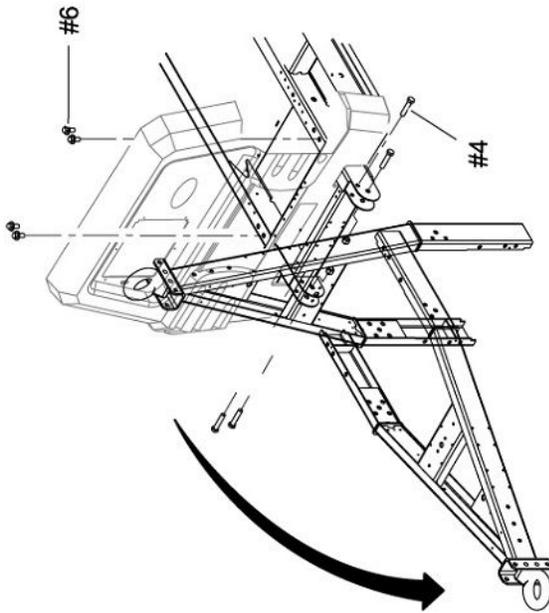

Figure 1
4. Remove the temporary retaining bolts from both sides of the frame at the drawbar connection (See Figure 1).
6. Install the four bolts (with pre-applied thread lock) to the four points inside the enclosure and torque to 68 foot pounds (9.4 kg-meters) (See Figure 1).